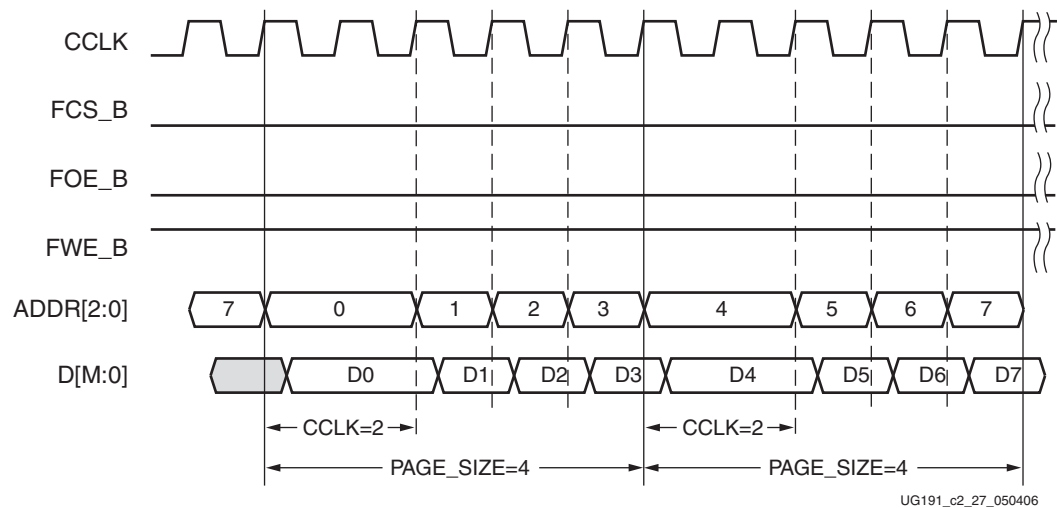

Figure 2-24: BPI-Up Waveforms (Page Size = 4 and First Access CCLK = 2)
the master CCLK is running at slowest default frequency. The COR0 register contains master CCLK frequency control bits (see “Configuration Options Register 0 \(COR0\),” page 121). The COR1 register contains BPI flash page mode control bits (see “Configuration Options Register 1 \(COR1\),” page 123). After the COR1 register is programmed, the BPI address timing switches at the page boundary as shown in Figure 2-24. When the SWITCH command is received, the master CCLK switches to a user-desired frequency, using it to load the rest of the configuration.
Notes related to Figure 2-24:
- Figure 2-24 shows BPI-Up mode, a page size of 4, and a first access CCLK of 2.